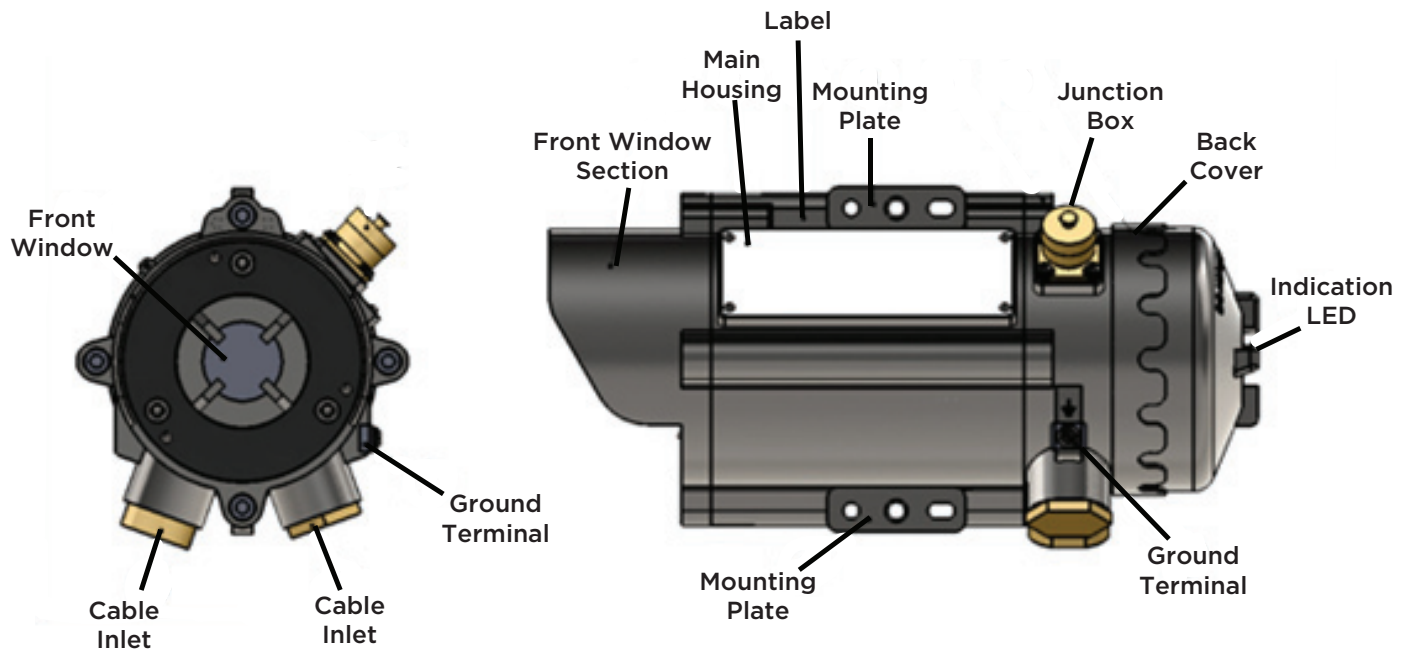
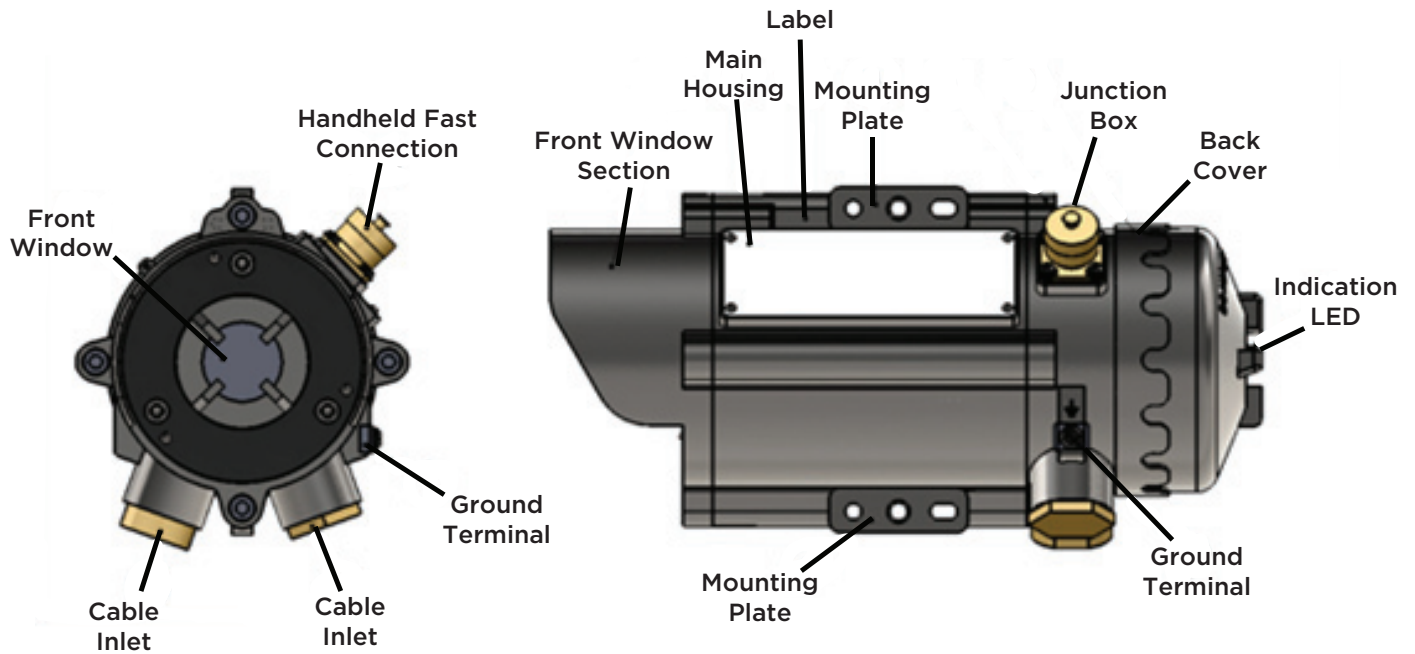

Figure 3-1: Flash Source Unit
Figure 3-2: Detector Unit
A 3-color LED indicator, located on the back side of the detector/source behind the back cover window, displays the detector’s/source’s status. See Figure 3-1: Flash Source Unit and Figure 3-2: Detector Unit, item 11.